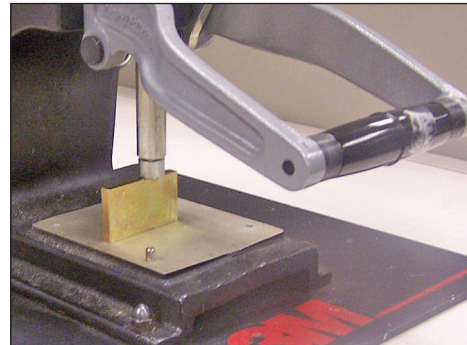

Figure 2: Shut Height Adjustment
2.1 Adjust the shut height setting (see Figures 2 through 4).
3.3 Place the shut height gauge across the assembly press base. (See Figures 2 and 3)